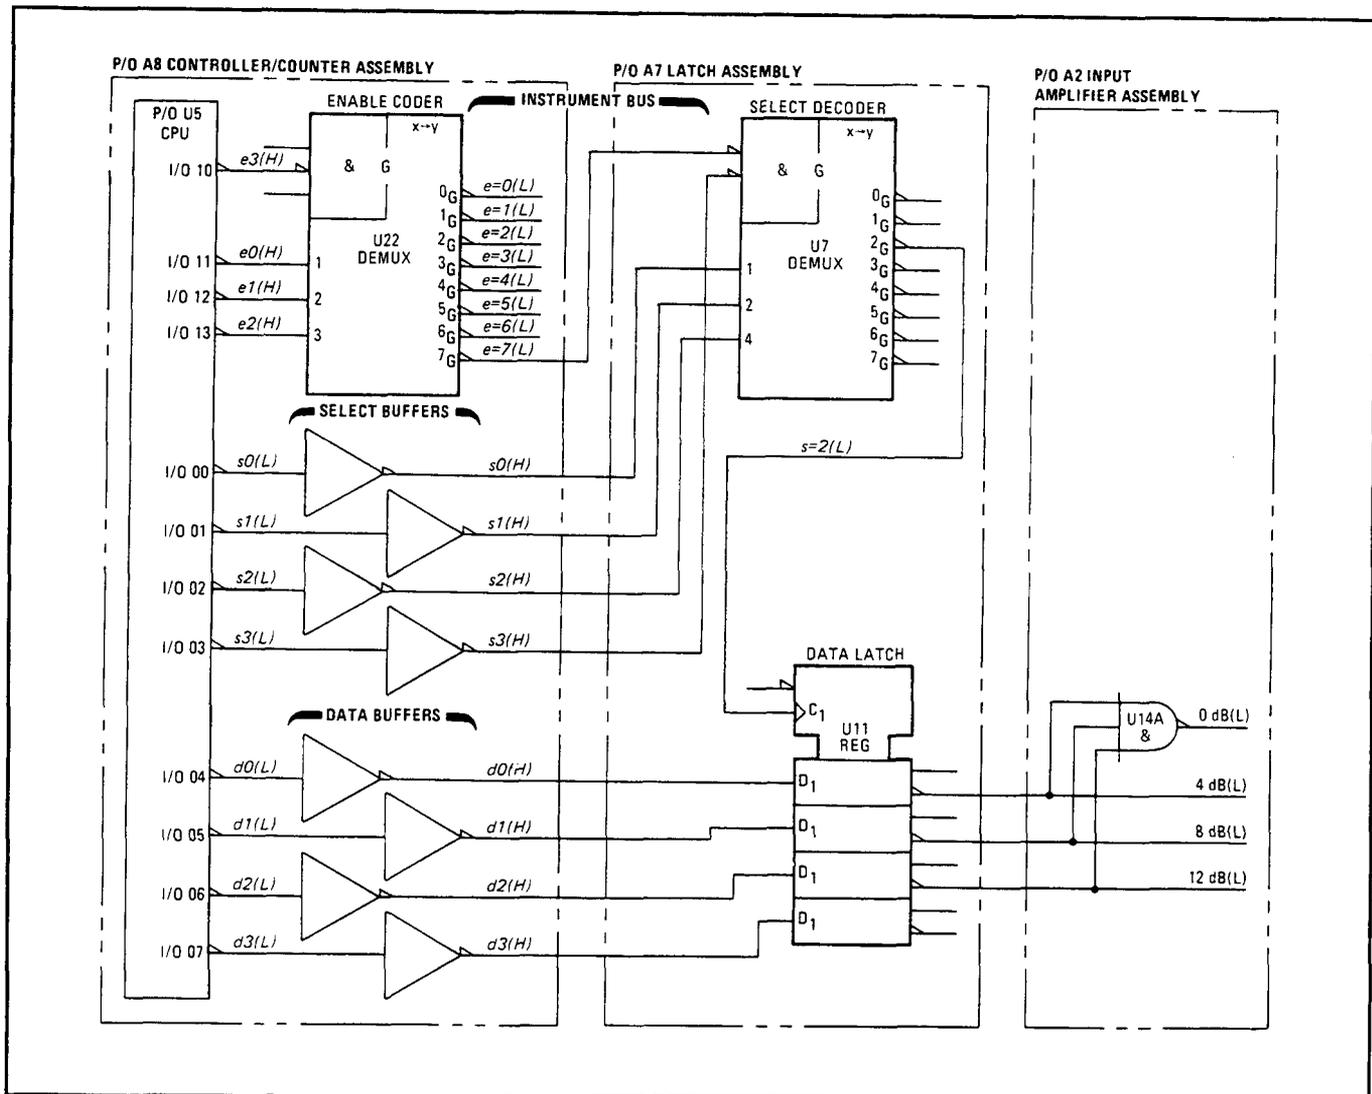

Figure 8D-1. Example Showing Instrument Bus Hookup
Figure 8D-1 shows a typical hookup on the Instrument Bus. The Instrument Bus lines are broken into three groups: enable (e), select (s), and data (d). The enable code (e0 to e3) comes from I/O lines 10 through 13 of the CPU (A8U5). Three of the lines are decoded by the Enable Code Decoder (A8U22) to activate one of eight unique enable lines (e=0 to e=7). The fourth line enables the decoder itself. The enable lines run to the Keyboard, Remote Interface, and Latch Assemblies and to the Counter on the Controller/Counter Assembly. Typically, each line is dedicated to a specific operational function; for example, enable line e=6 controls Oscillator tuning.
The example of Figure 8D-1 will be used to illustrate how the 8 dB gain setting is selected for the Programmable Gain Amplifier on the Input Amplifier Assembly. The amplifier (not shown) is set for 8 dB gain when the output line labeled 8 dB(L) of Data Latch A7U11 goes low. A7U11 is on the Latch Assembly. Register U11 is simply